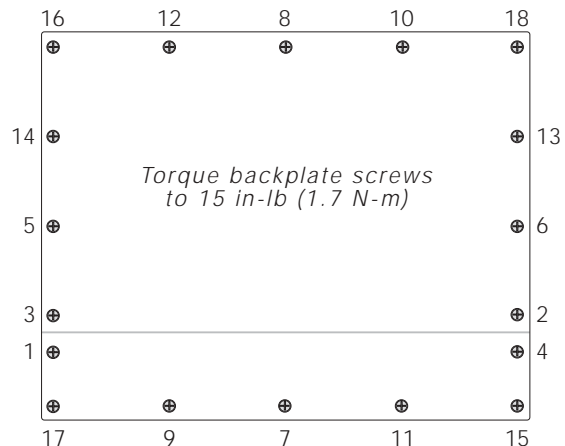

Figure 2-3. 920i Enclosure Backplate
8. For indicator models that include a backplate, position the backplate over the enclosure and reinstall the backplate screws. For the *920i* desktop and universal models, use the torque pattern shown in Figure 2-3 to prevent distorting the backplate gasket. Torque screws to 15 in-lb (1.7 N-m).